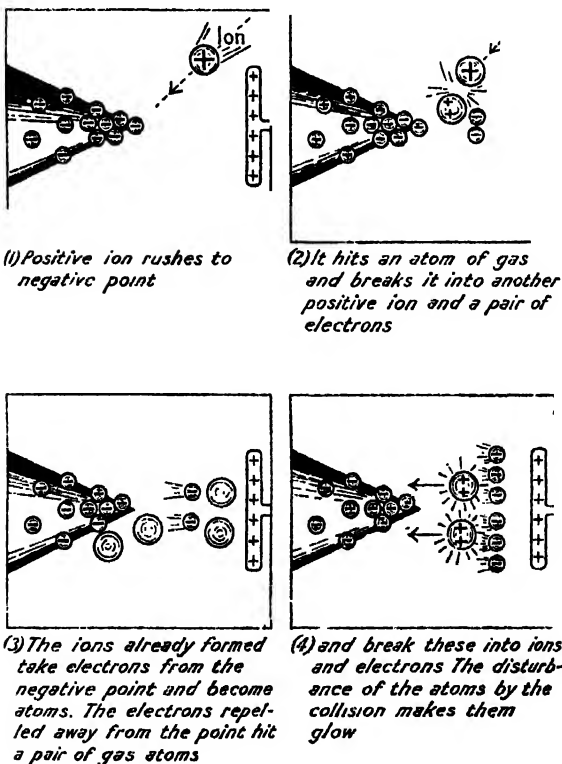

FIG 159.—A brush discharge.
There are always a few positive ions in the air—atoms from which an electron or two have been detached. These are drawn to the negative point with a high velocity (Fig. 159) (1) and break up other atoms as they near it (2). These atoms break into one or two electrons and a positive remainder. The positive remainders travel to the point and take from it electrons, so becoming atoms once more (3). The electrons, detached from the atoms in the collision are repelled from the point with high velocities (3) and finally reach a speed at which they can break up more molecules (4) into electrons and positive remainders. These glow, for reasons which will appear later (p.433 *ff.*) and travel to the negative point; the liberated electrons are thus attracted to the positive plate and return to the dynamo. The current passes slowly with the accompaniment of a bright spark-like light at the point—where the atoms are being broken into ions and electrons (Fig. 159) (2), then a dark space where the electrons and ions are being speeded up by the attraction or repulsion of the charge on the point, then a blue luminous area where the electrons, having reached a high speed, break up fresh atoms to electrons and positive ions (4), giving out light in the process. Beyond this again is a dark space through which the electrons journey to the plate. These areas are visible in the vacuum discharges (Plate XIII).